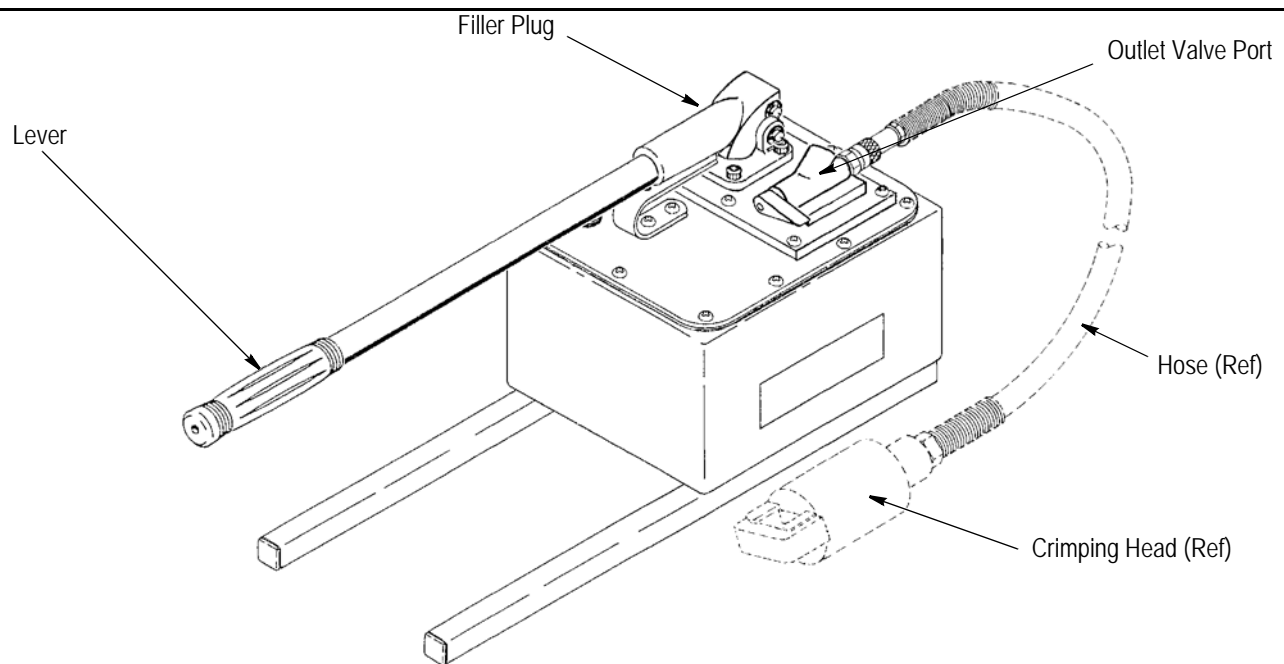

Figure 6
NEVER operate hand pump without having hose and crimping head attached. Refer to Figure 6.
1. Use a clean cloth to remove all dust and grit from area around filler plug. See Figure 6.